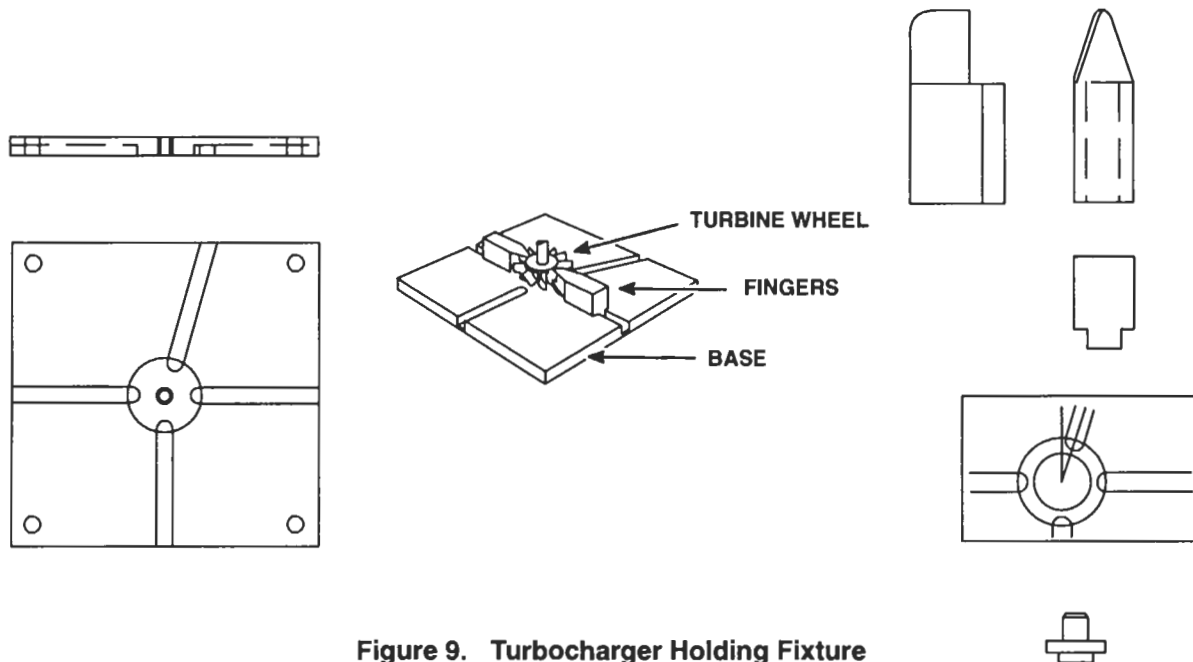

Figure 9. Turbocharger Holding Fixture
3. Position the turbine wheel of the center housing assembly in a suitable holding fixture (Figure 9.) Remove the the wheel nut from the shaft. If a holding fixture is not available, clamp a suitable socket or box end wrench in a vise and place the extended hub on the shaft in the socket or wrench. Hold the center housing upright and remove the wheel nut from the shaft.